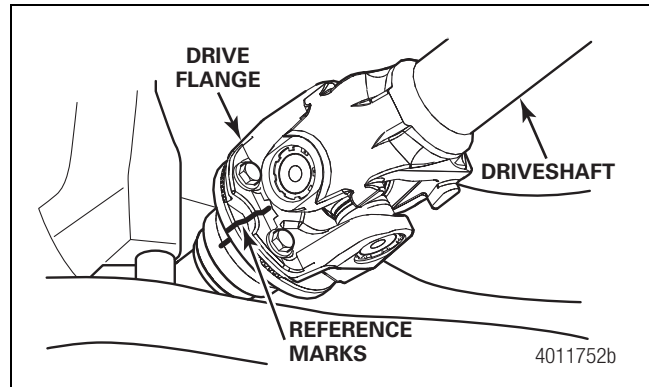

Figure 4.43
2. Apply reference marks at the flange connections on both ends. These marks will be used to reinstall the driveline with the same phasing at reassembly. Figure 4.43.